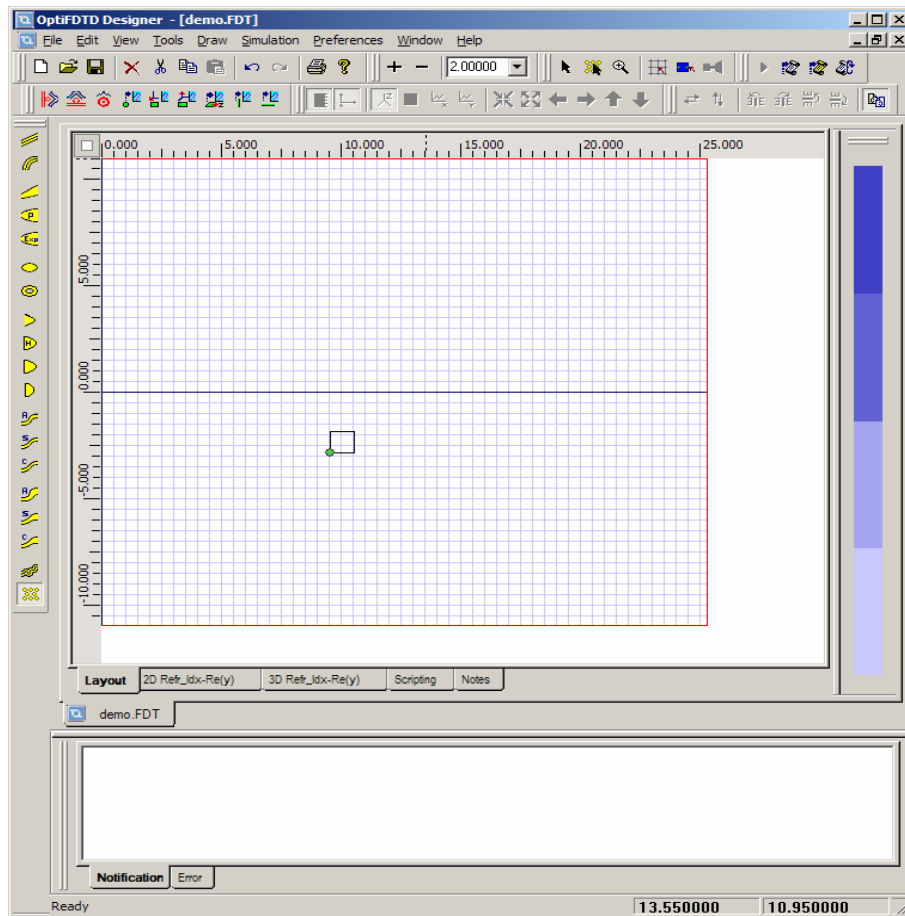

Figure 4 Layout window with initial PBG layout
13. Click mouse once in the layout window, *The **PBG Crystal Structure** appears in the layout window (see Figure 4)*. Click select tool ( the arrow shortcut toolbar) to release the PBG selection.